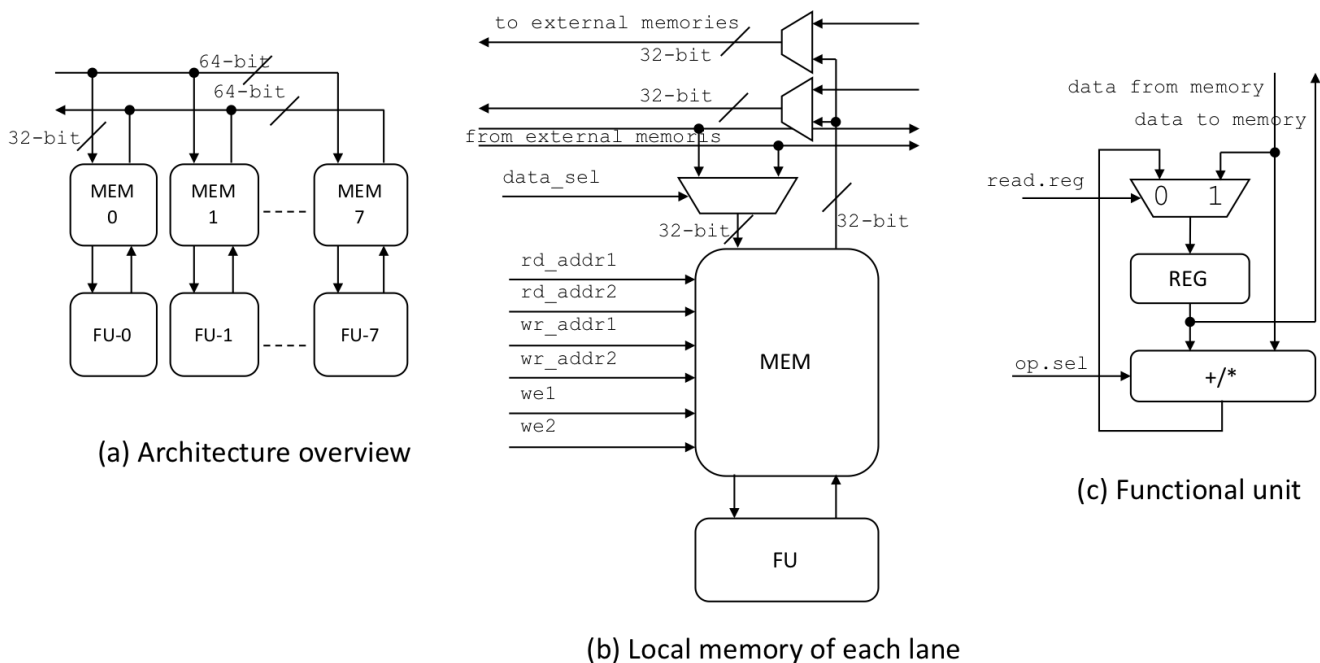

Fig. 3:Architecture
The program below performs a matrix multiplication of matrices a and b. To perform this operation in hardware, we use an 8-lane SIMD accelerator (shown in Fig. 3). Fig. 3(a) shows an overview of the parallel architecture consisting of eight parallel local memories and functional units. The local memories are connected to a 64-bit wide shared bus which can transfer two 32-bit words. Since the memory is 32-bit wide the local memory will select between one of two 32-bit words using a multiplexer (see Fig. 3(b)). Each local memory has such a select signal to select appropriate word on the bus.
- One write port is connected with the shared bus to store the data on the memory from external memory and the other is with the functional unit (see Fig. 3(b)). Likewise, each of the read ports are connected with the shared bus and functional unit.
- REG(Fig. 3(c)) of each FU can contain a single word.